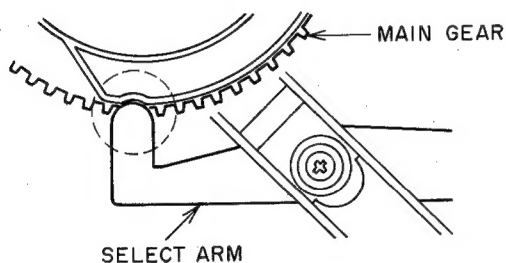
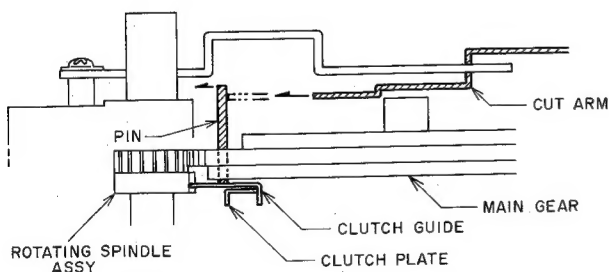

Fig. 5-6
Fig. 5-7
5) The position of the lead-in/out for both the 30 and 17 cm size is determined by the selector, arm loading assy and the position of the select arm. So if there is too much play on the select arm, it will move away from the main gear. Even on start, this can cause the tone arm not to reach the lead-in position or even when it does reach the position, it fails to reach the lead-out position. So check that the select arm contacts the main gear fully as in Fig. 5-6. As shown in Fig. 5-7, the lead-out uses contact between the cut arm and the clutch guide on the main gear block. Make sure that when on lead-out, the cut arm touches the pin on the clutch guide, and the clutch plate catches the rotating spindle assy. The cut arm is made of aluminum and is mechanically weak, so if the lead-out is faulty check the curve of the arm. If lead-out adjustment cannot be achieved by adjusting the lead adjuster eccentric pin, adjustment is possible by bending the cut arm slightly. If even then adjustment cannot be achieved, other mechanical faults might be the cause, so check other mechanical parts.